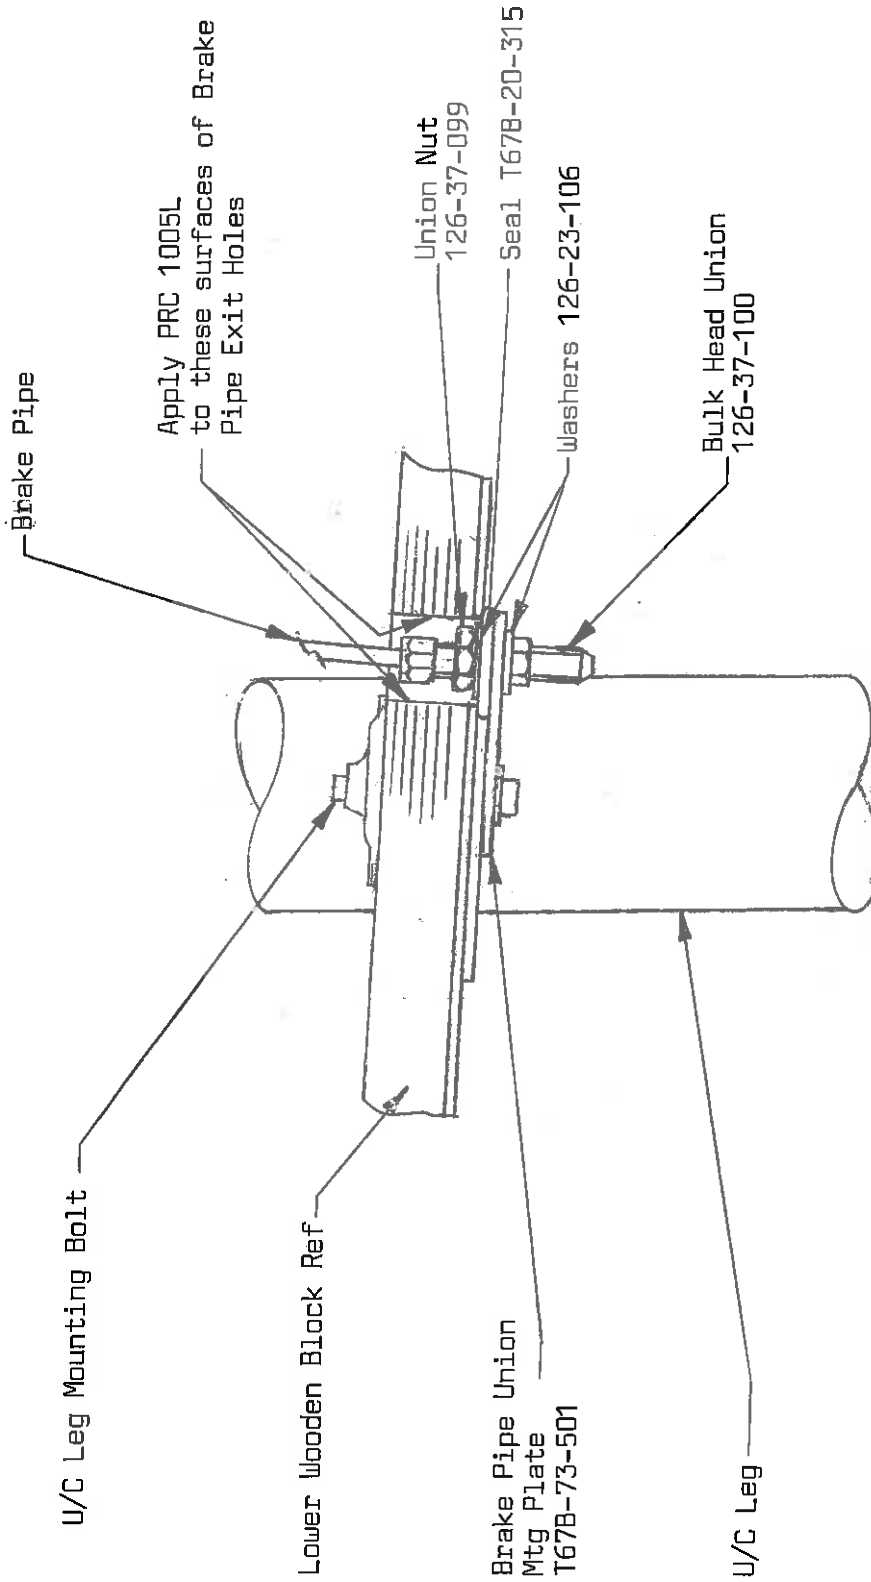

FIG 3
- iv) Amend Spare/Illustrated Parts Catalogue to show items illustrated at Fig 3.